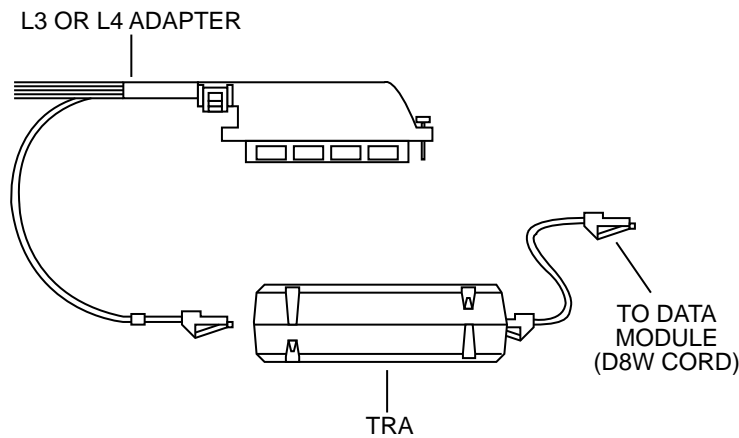

FIGURE 8-21. Connecting the L3 or L4 Adapter with the Digital Lines
- If you are using the L3 or L4 adapter to connect the modules with the digital lines, plug one end of the TRA into the jack on the data module marked **LINE**. Plug the appropriately numbered loose end from the L3 or L4 adapter into the other end of the TRA. See Figure 8-21.